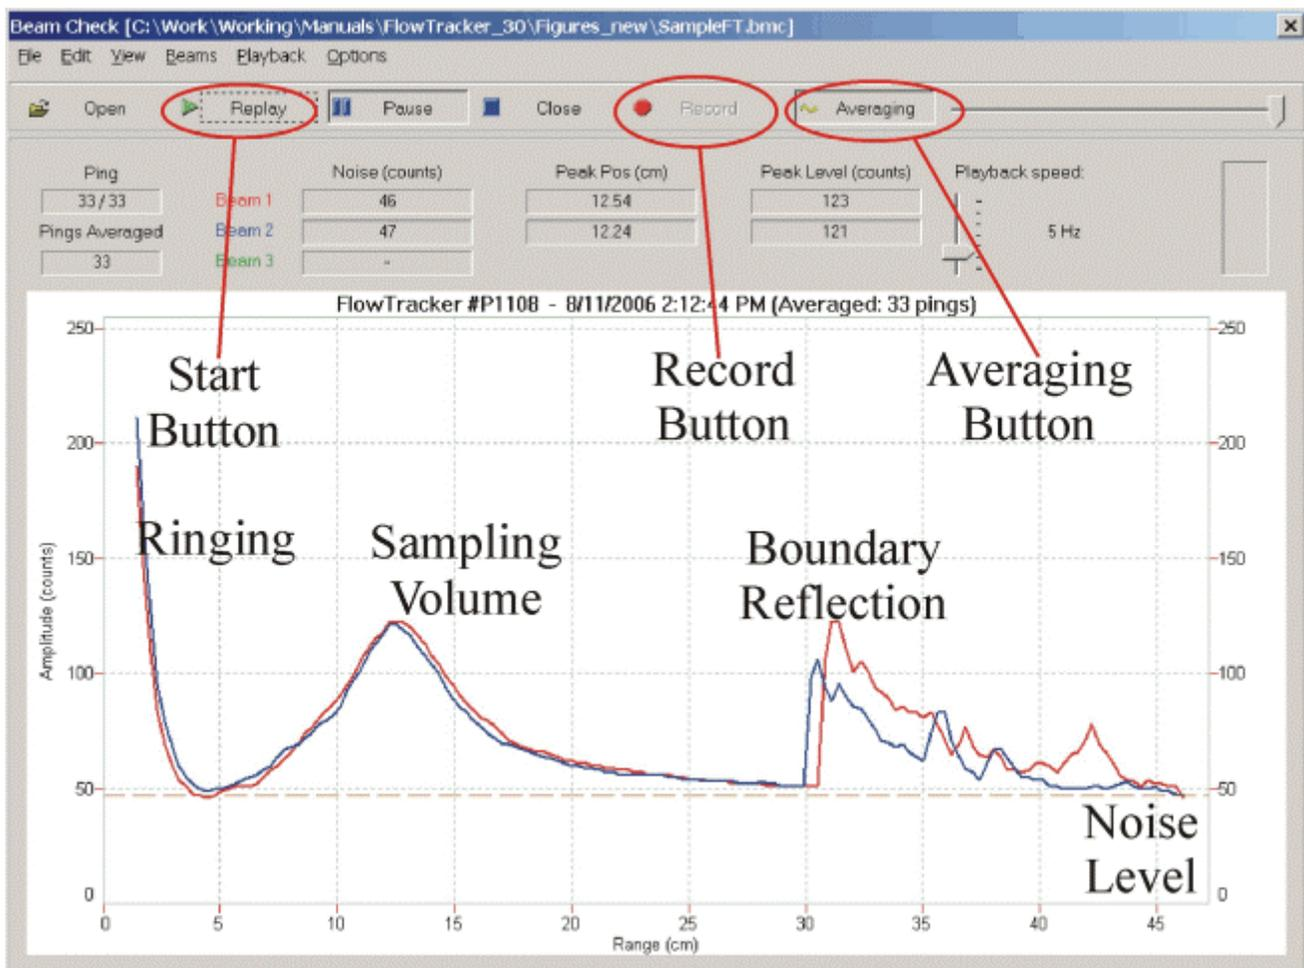

Figure 16 – BeamCheck Main Window with Sample Output
BeamCheck (Figure 16) is a diagnostic program used to verify FlowTracker performance.
In *BeamCheck*, the FlowTracker sends a pulse of sound and outputs the return signal strength for each receiver as a function of time. Features in the signal strength profile verify different aspects of system performance (Figure 16).
- Each of the items described above should be visible (Figure 16).